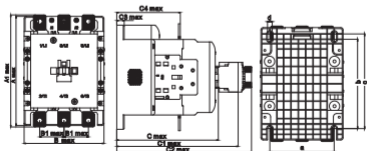

Figure 3 CJX2s-120-630
- See Figure 3 and Table 4 for the overall and mounting dimensions of the contactor.